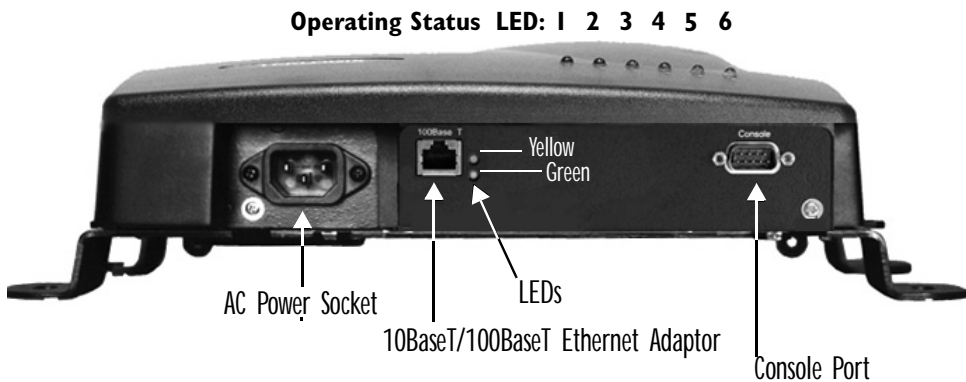
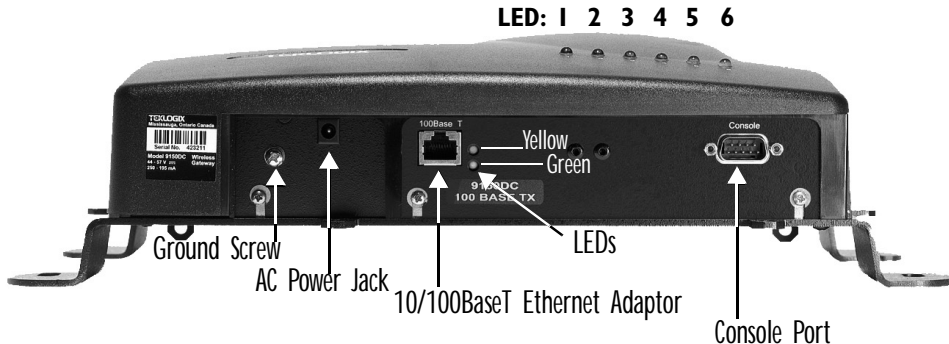

Figure 2.2 9150T Ethernet LED Locations*
Figure 2.3 The 9150DC Wireless Gateway
Figure 2.2 below shows the locations of the port and power connectors on the base of the 9150T [100BaseT Ethernet]; for the 9150DC, see Figure 2.3 on page 21). The port pinouts are described in Appendix B: “Port Pinouts And Cable Diagrams”.
*Note: The location of the LEDs is the same on the 9150DC (see Figure 2.3 on page 21).
See Figure 2.2 on page 19 for the connector locations. Since these ports are auto-selecting, jumper or configuration settings are not required. The maximum packet size supported over the network is **1500 bytes**. This parameter is not set at the 9150, but should be set at the host. For a description of port pinouts, please refer to Appendix B: “Port Pinouts And Cable Diagrams”.
The 9150DC may also be powered via the Auxiliary Supply (48 VDC) power jack, which is adjacent to the ethernet RJ-45 connector (see Figure 2.3). For a description of RJ-45 port pinouts, refer to Appendix B: “Port Pinouts And Cable Diagrams”.
The high-performance 9150T (see page 20 for details) and DC-powered 9150DC (see page 20 for details) both have six status indicators on the front of the enclosure, and an additional two status indicators on the base of the enclosure next to the RJ-45 connector port, as shown in Figure 2.2 on page 19. The numbered and coloured LEDs on the front of the unit indicate the operating status for each port, as described in Table 2.2. The coloured LEDs beside the RJ-45 port indicate the operating status of the resident 10BaseT/100BaseT card, as described in Table 2.3 on page 26.
The terminal is connected to the port labelled “Console” on the 9150 (see Figure 2.2 on page 19). This port is normally set to operate at 19,200 baud, 8 bits, 1 stop bit, no parity. To comply with Part 15 of the FCC rules for a Class B computing device, only the cable supplied (Part no. 19387) should be used.